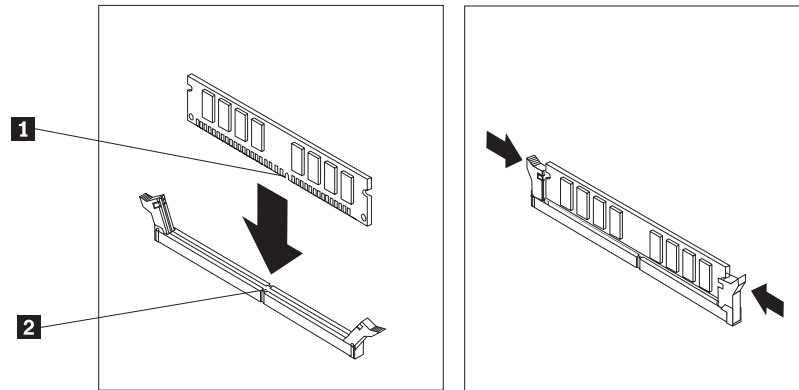

Figure 30. Installing the memory module
5. Position the replacement memory module over the memory connector. Make sure the notch **1** on the memory module aligns correctly with the connector key **2** on the system board. Push the memory module straight down into the connector until the retaining clips close. See Figure 30.